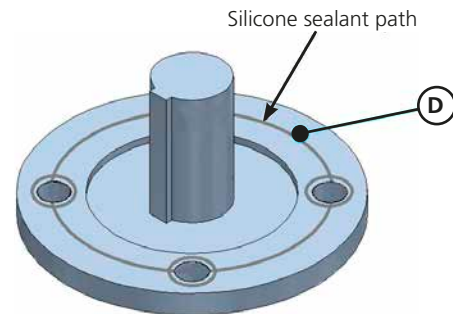
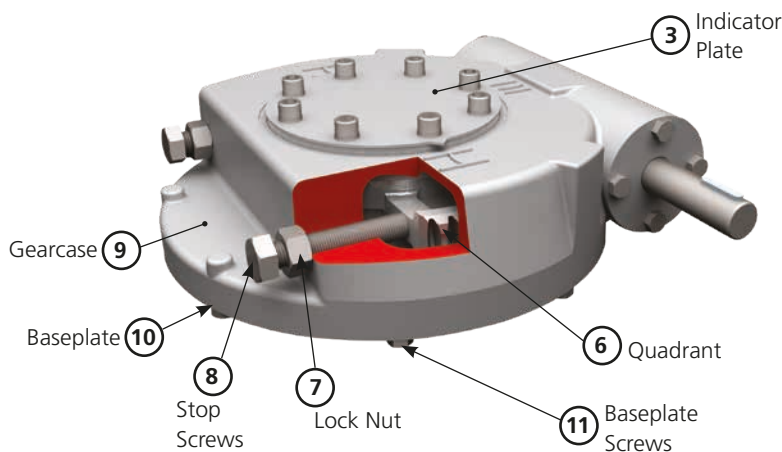

Fig. 5 - Sealing of Valve Mounting Flange
Fig. 6 - Setting Stop-Bolts
- 2) Apply a ring of silicone sealant around the mounting face of the flange, the ring should be at the same radius from the shaft as the bolt holes. Apply small rings of sealant around each of the bolt holes to completely seal the faces (see Fig. 5)
Important Note for Fig. 5:
- D: It is recommended that flanges be sealed on assembly with silicon sealant. The face marked 'D' on Fig. 5 shows where sealant can be applied to the valve mounting flange.
- 3) Align gearbox baseplate flange square and parallel to valve flange (see Fig. 5), It is recommended that flanges be sealed on assembly with silicon sealant. Grease the output sleeve and the valve shaft.
The gearbox stops are factory set but require adjusting for optimum valve performance. If an actuator is to be used to operate the gearbox, then the mating faces between the gearbox input flange and the actuator output must be sealed prior to assembly using a ring of silicone sealant applied at the same radius as the bolt holes, a small ring of sealant should be applied around each bolt hole to completely seal the faces (see Fig. 5). The actuator limit and torque switch settings should be set up according to the actuator manufacturer's recommendations. The gearbox open & closed stop screws should then be set (see Fig. 6).
Close the valve, using the actuator where applicable. Referring to Fig. 6, use the indicator plate (3) pointer as an indication of position.